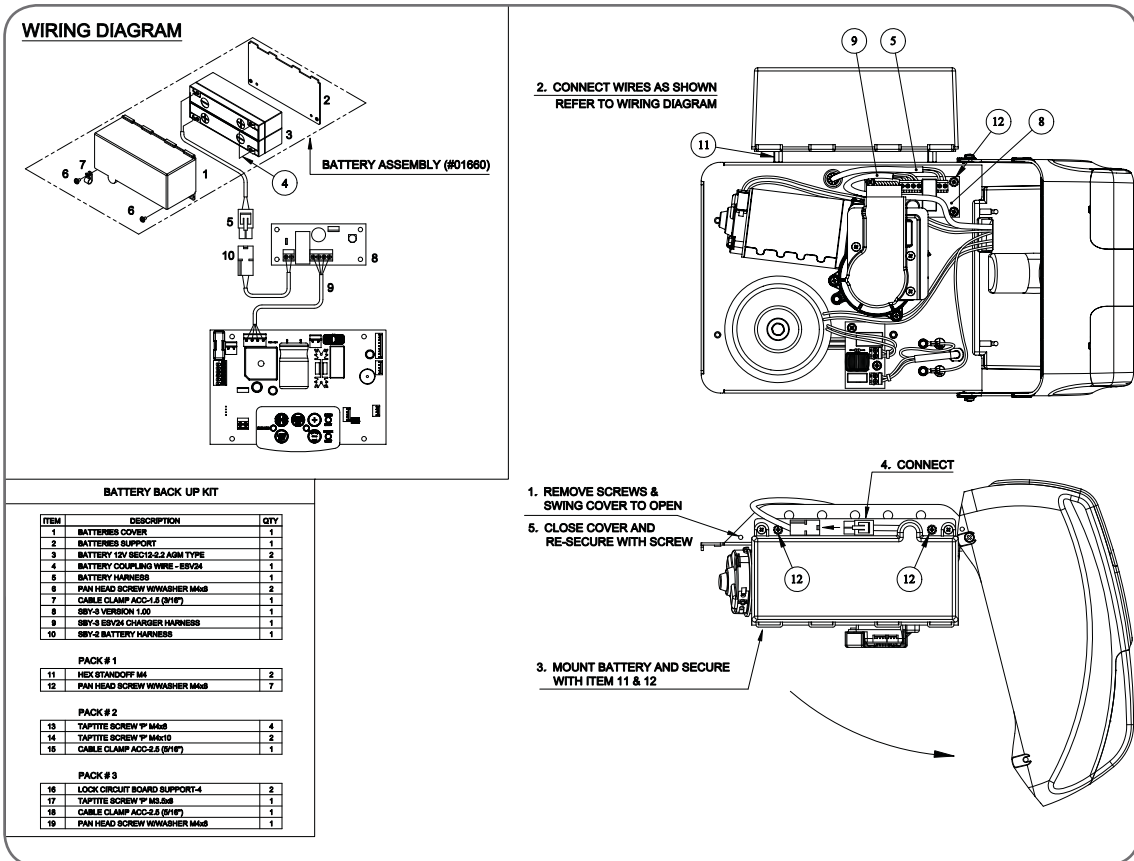

Fig. 40
2. Remove screws and swing the cover open (Fig. 40).
3. Mount battery pack and secure with item 11 and 12.
4. Mount the SBY-3 Charger Board on the pre-mounted hex spacers and secure with three (3) M4x8 screws.
7. Connect item 3 and 7 together (Fig. 40).